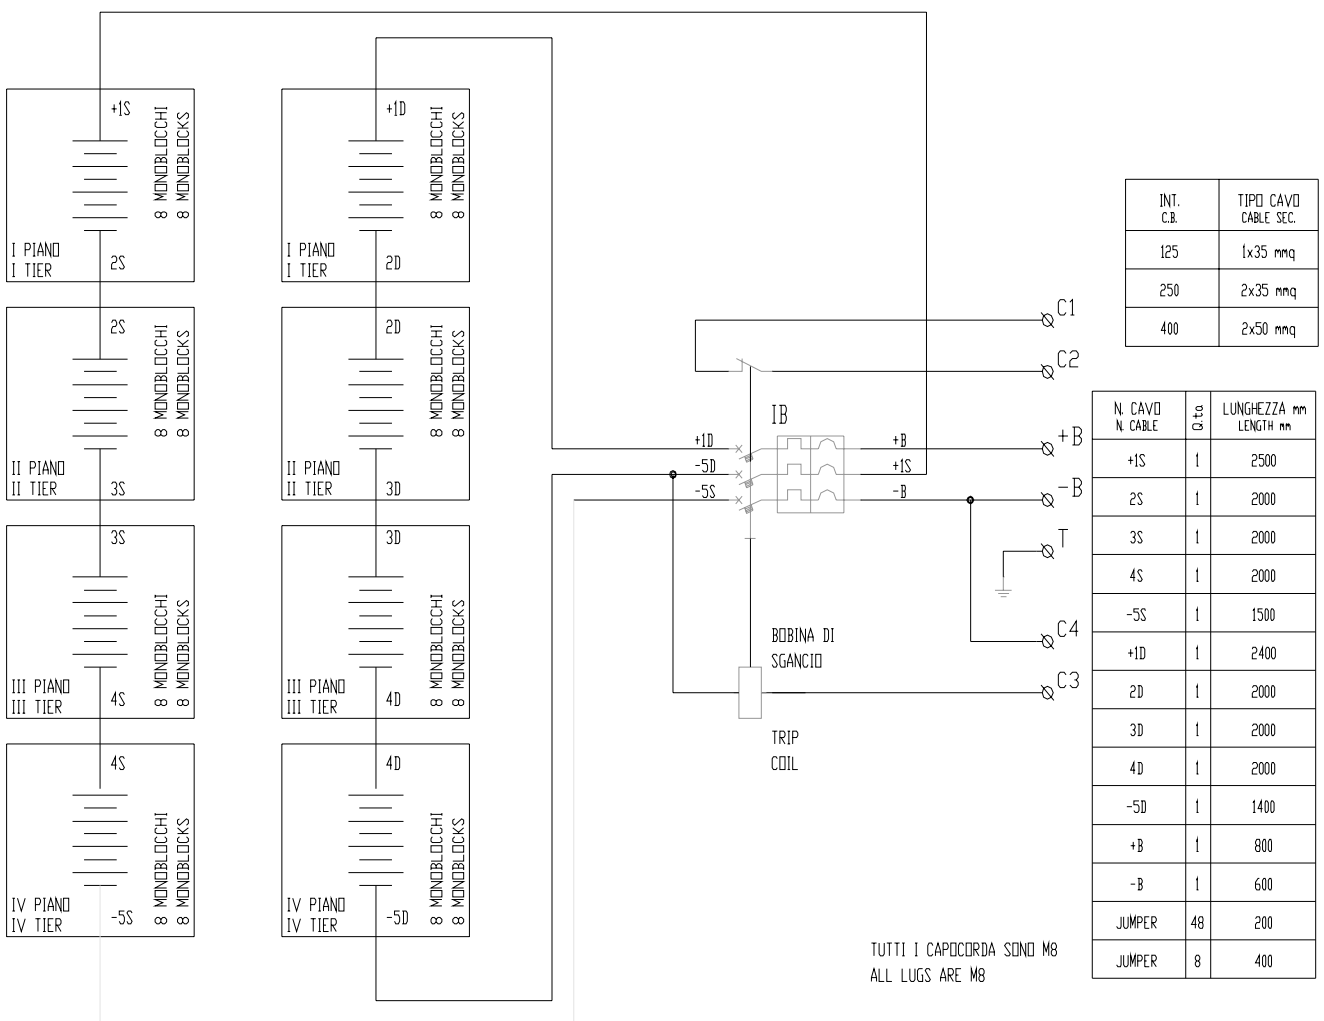

FIG. 1.16.12 BC4HD internal electrical connections
- Connect the battery blocks of the various levels to the IB battery switch, and the IB to the terminals, as shown in fig. 1.16.12.